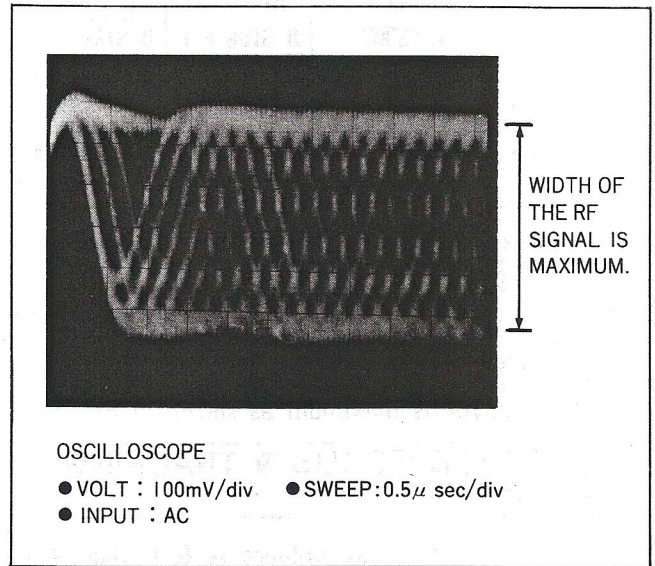

Fig. 9-7
- Adjust VR22002 and Tangential (B) Adjustment Screw alternately so that the width of the RF signal is maximum as shown in Fig. 9-7.